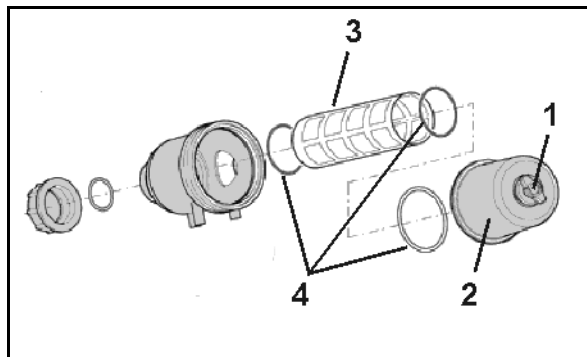

Fig. 126
Clean the suction filter (Fig. 126) daily after the spraying process.
5. Slacken the thumb nut on the suction filter (Fig. 126/1).
6. Remove the lid (Fig. 126/2).
7. Pull out the filter insert (Fig. 126/3) and clean with water.
8. Check the O-rings (Fig. 126/4) for damage.
Ensure the correct fitting of the O-rings (Fig. 126/4).